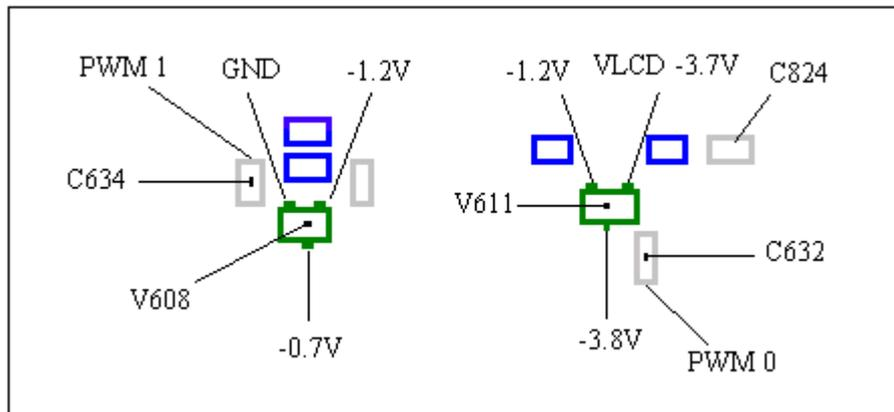
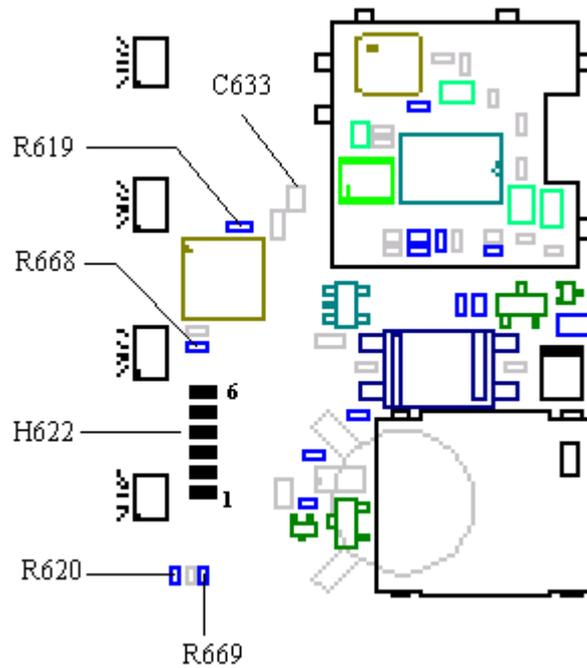

Fig. 5.2
Fig. 5.5
Measure the voltages at V608 (class A) and V611 (class A). The GH 688 uses displays of two different brands, Philips and Seiko. Fig. 5.2 and 5.3 shows typical voltage values for both brands.
If one or more of the voltages are incorrect, measure the resistance of C633 (class A, >100 kohms, fig. 5.5) and C824 (class A, >25 kohms, fig. 5.2 and 5.3).
* If they are correct, replace C634 and C632 (class A, fig. 5.2 and 5.3)
- Make sure that there VLCD (~-3.7V) voltage at H622 pad 5 (fig. 5.5).
- Make sure that there VLCD (~-2.8V) voltage at H622 pad 5 (fig. 5.5).
Measure the voltages at the display pads H622 (fig. 5.5):